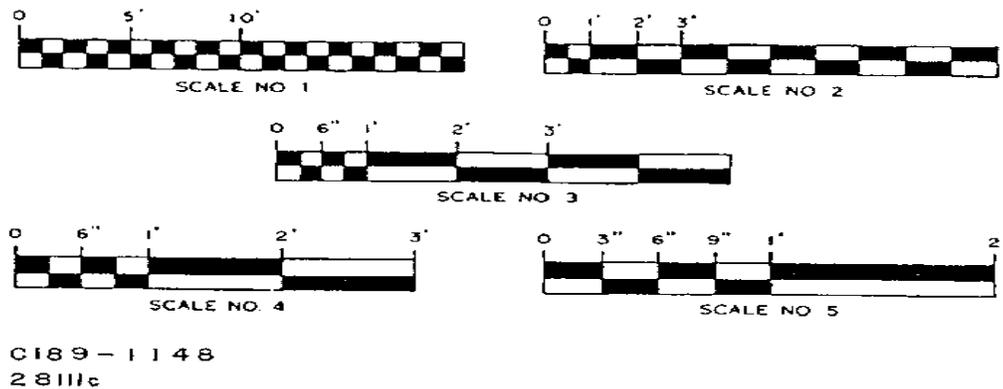

Figure 6. Graphic Scale
6.3. Graphic Scale. Graphic scales (Figure 6) are lines divided into distances corresponding to convenient units of length of the object shown by the print. They are placed in or near the title block of the print; increasing or decreasing the print size will change the scale lengths accordingly.